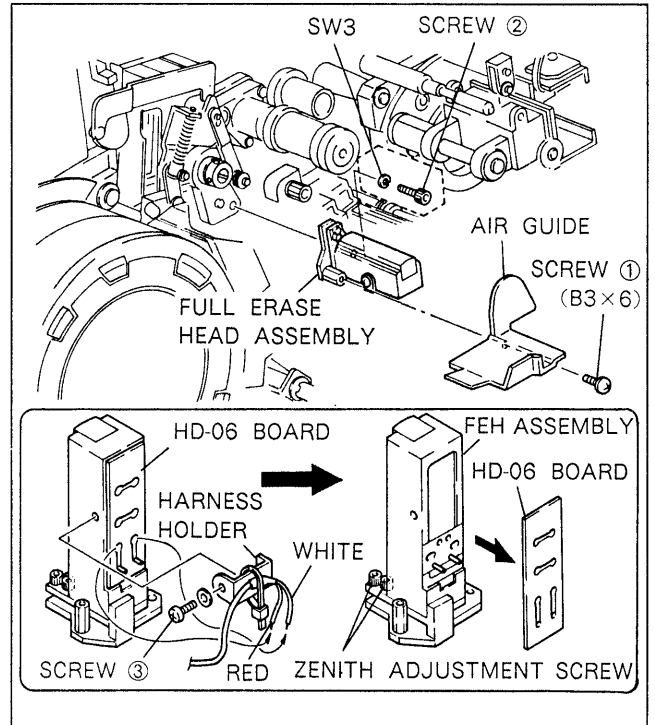

Fig. 6-18-2. Full Erase Head Assembly Removal
1. Remove the screw ① (B3×6) and remove the air guide.
2. Remove the screw ② (C3×6: including the spring washer) and remove the FEH assembly as shown in Fig. 6-18-2.
- 9. Mount the air guide referring to Fig. 6-18-2 in step 1.